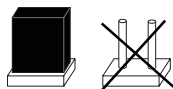

Figure 3
- The jumper 'JP1' (K) must be inserted (see figure 3, left).